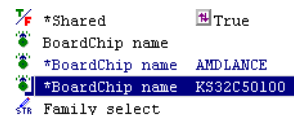

Figure 13-15 Setting up EtherRouter
8. Select the name of the other board group, for example AMDLANCE. A new entry is added to the right pane with an asterisk * beside it, shown in Figure 13-15.